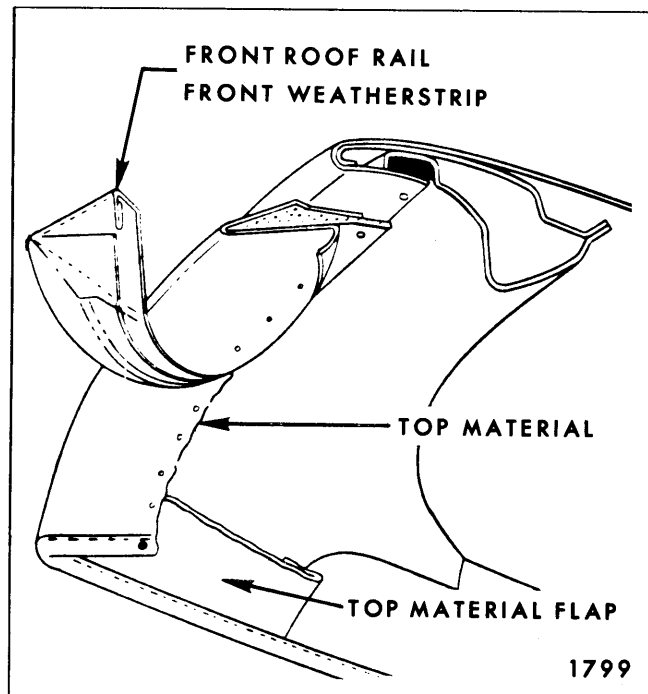

Fig. 13-26—Top Material At Front Roof Rail
48. Apply nitrile cement or neoprene-type weatherstrip adhesive to front flaps and to corresponding areas on side roof front rails. Fasten flaps to side roof front rails. (See Fig. 13-26.)
10. Detach top material flaps from side roof front rail (Fig. 13-26).
30. Apply nitrile cement or neoprene-type weatherstrip adhesive to front flaps and to corresponding areas on side roof front rails. Fasten flaps to side roof front rails. (See Fig. 13-26.)